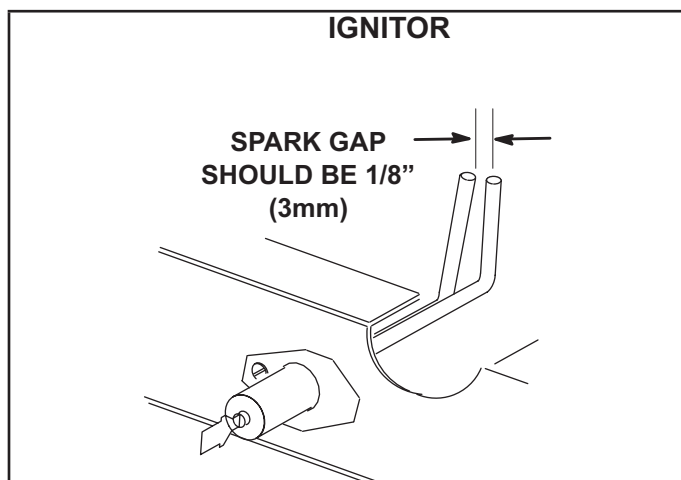

FIGURE 27
- 5 - Locate the ignitor under the right burner. Check ignitor spark gap with appropriately sized twist drills or feeler gauges. See FIGURE 27.